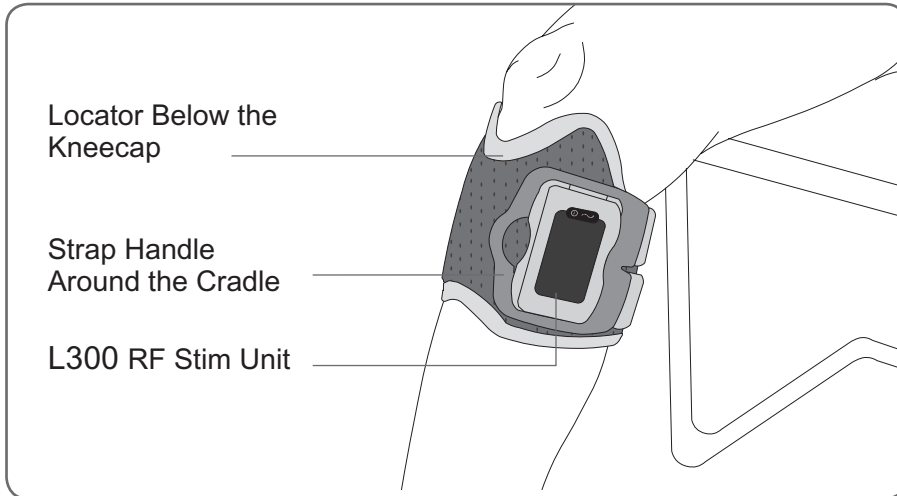

Figure 7-4: The L300 FS Cuff correctly positioned on the right leg.
9. Make sure the L300 FS Cuff is correctly positioned. The locator should rest below the kneecap. The RF Stim Unit should face the inside of the leg. See Figure 7-4.